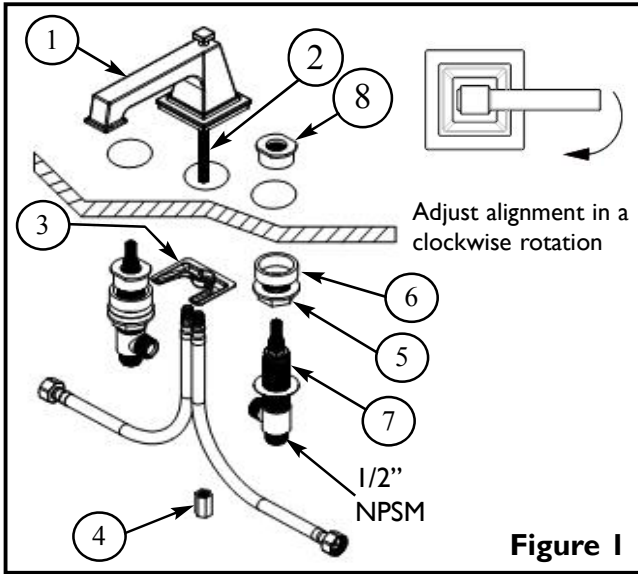
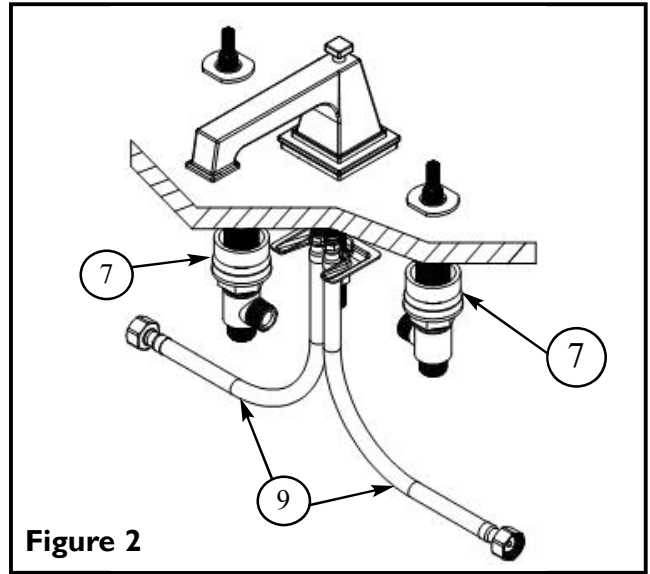

Figure 1
Figure 2
1. Place the SPOUT (1) hoses, one at a time, and threaded ROD (2) through center hole of mounting surface. Secure SPOUT (1) into place with BRACKET (3) and NUT (4). See Figure 1.
2. Place flange NUT (5) and SPACER (6) on valve BODY (7). Insert valve BODY (7) through the hole in the mounting surface and thread into INVERTED NUT (8) until it bottoms out. Before tightening NUT (5), check alignment of handle. Any adjustments for rotational alignment must be made to the valve BODY (7), not to the cartridge. See Figure 1 & Figure 2.
3. Connect the loose end of flexible HOSE (9) to side outlet of valve BODY (7). (Hand-tighten and secure each connection with a wrench $1/4$ turn.) Repeat on other side. See Figure 2.